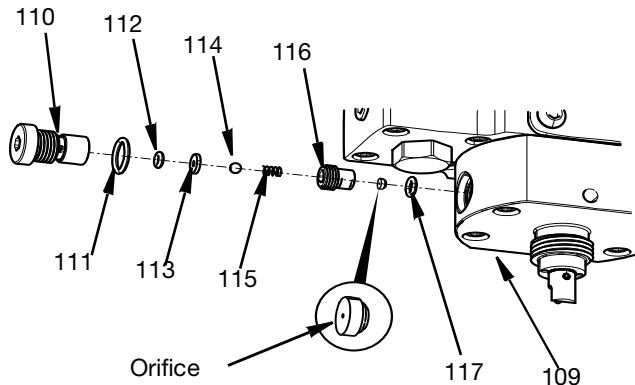

FIG. 43
2. Remove the check valve body (110) using a 5mm allen wrench.
3. Remove orifice and O-Ring (117) from the bottom of the check valve housing (109).
4. Unscrew the check valve retainer (116) from the check valve body (110) using a 6 mm wrench (1/4 in.) wrench and 5mm allen wrench.
5. Remove the check ball (114), comp spring (115), valve seat (113), and O-ring packing (112) from the check valve body (110). See FIG. 43.